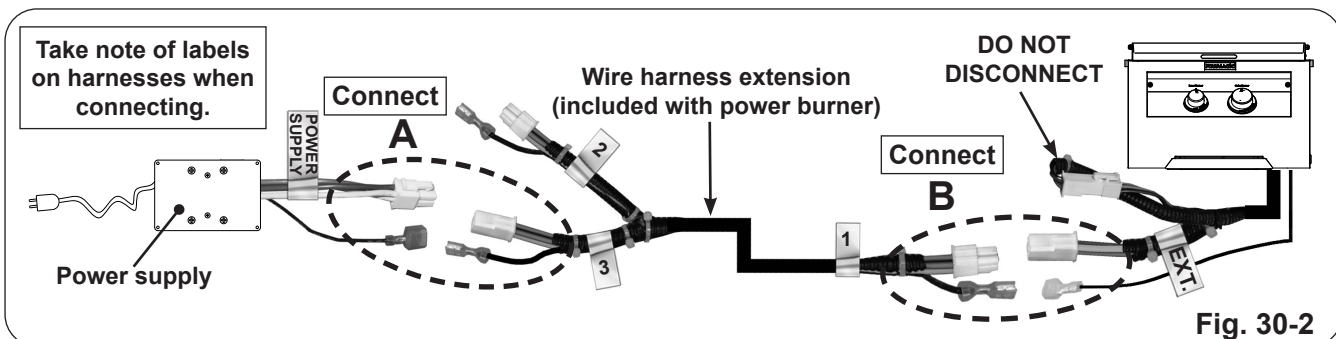

Fig. 30-2
1. Locate the "Y" end of the wire harness extension that is included with the power burner and connect the compatible end to the power supply connectors (see Fig. 30-2, A).
2. Connect the opposite end of the wire harness extension to the power burner connectors (see Fig. 30-2, B).